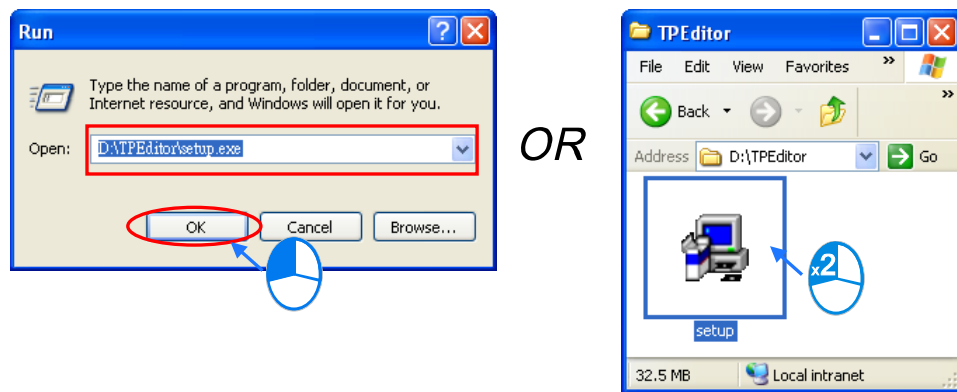

Figure 1-1 Installation
- (1) Start a Windows 2000/NT/Me/XP/Vista/7/8 operating system. The users have to log on as an administrator.
- (2) Put a TPEditor CD in the CD-ROM drive, or download the installation program from the Delta website is installed, it has to be decompressed.)
- (3) Click **Start**, and then click **Run...** to open the **Run** window. Specify a path which denotes the installation file in the **Open** box, and then click **OK**. The users can also double-click the installation file to execute the installation program. Please see Figure 1-1.